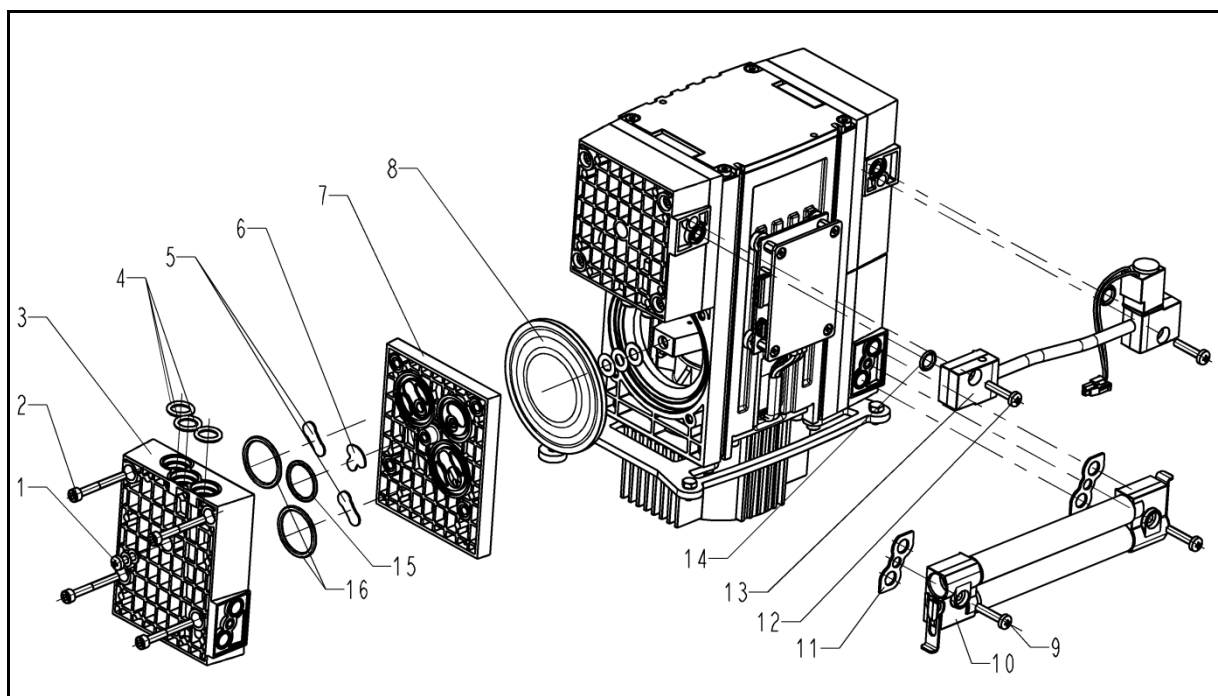

Fig. 19: Exploded drawing of SCC 950 pump
7. Undo the 16 attachments screws (Fig. 19/2) on the heads (1 to 4) and remove the heads (1 and 2 as well as 3 and 4).
3. Place heads 1 and 2 and heads 3 and 4 onto the compressor housing; alternately tighten attachment screws (Fig. 19/2) to hand-tightness (torque: 3.5 Nm)
Diaphragm and valve plates have been replaced.	<ul style="list-style-type: none"> ➔ Make sure that the diaphragms have the correct shim rings. ➔ If necessary, carefully tighten the attachment screws (Fig. 19/2, p. 41) of the pump head alternately.